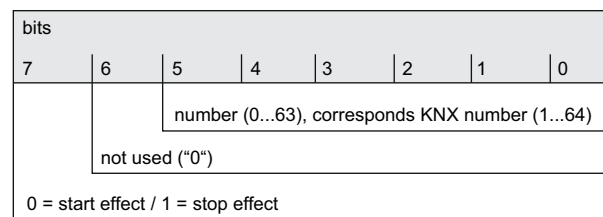

Figure 58: Structure of the object value for the effect extension
The structure of the telegram value for the effect extension is orientated to the KNX DPT 18.001, which is also used in the scene extension (Figure 58).
- i** It should be noted that the object value of the extension input is always "1" less than the configured KNX number, in accordance with KNX DPT 18.001 (Figure 58).